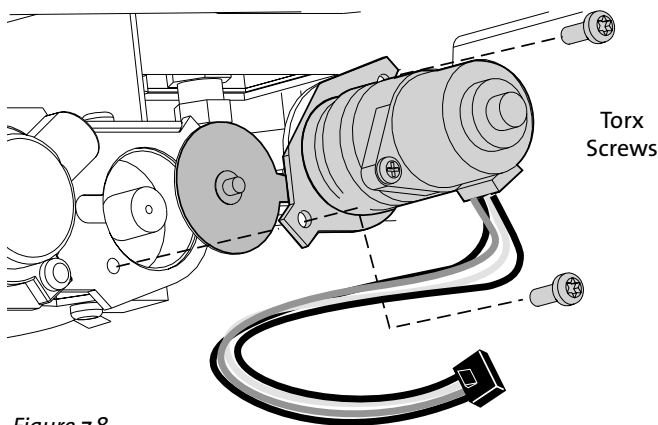

Figure 7.8.
11. Regulator Conversion. Fig. 7.8.